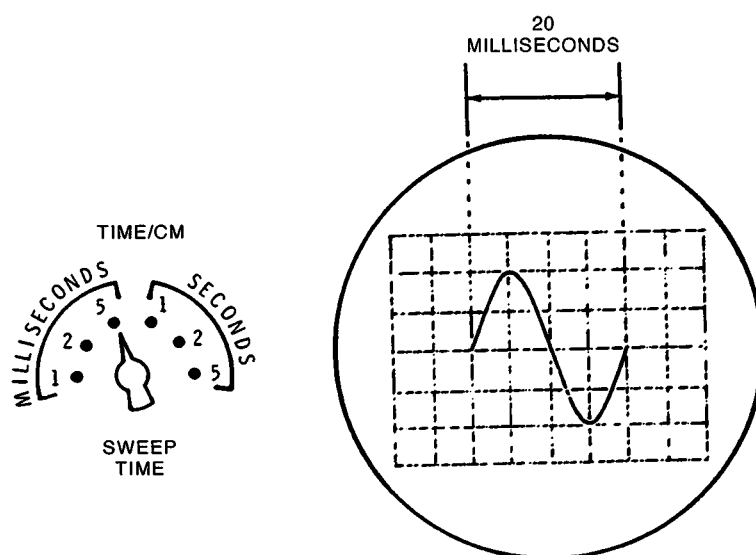

Figure 2-19
Assume that the oscilloscope's sweep time control (TIME/CM) is set to the 5 milliseconds per centimeter position as shown in Figure 2-19. Each centimeter of horizontal deflection represents a time interval of 5 milliseconds. The waveform being displayed in Figure 2-19 is 4 centimeters wide. In other words, one complete cycle occupies 4 centimeters of the trace. The period of the waveform is equal to 4 times 5 milliseconds or 20 milliseconds.
For example, the waveform in Figure 2-19 has a period (T) of 20 milliseconds (0.02 seconds). This waveform has a frequency (f) of: